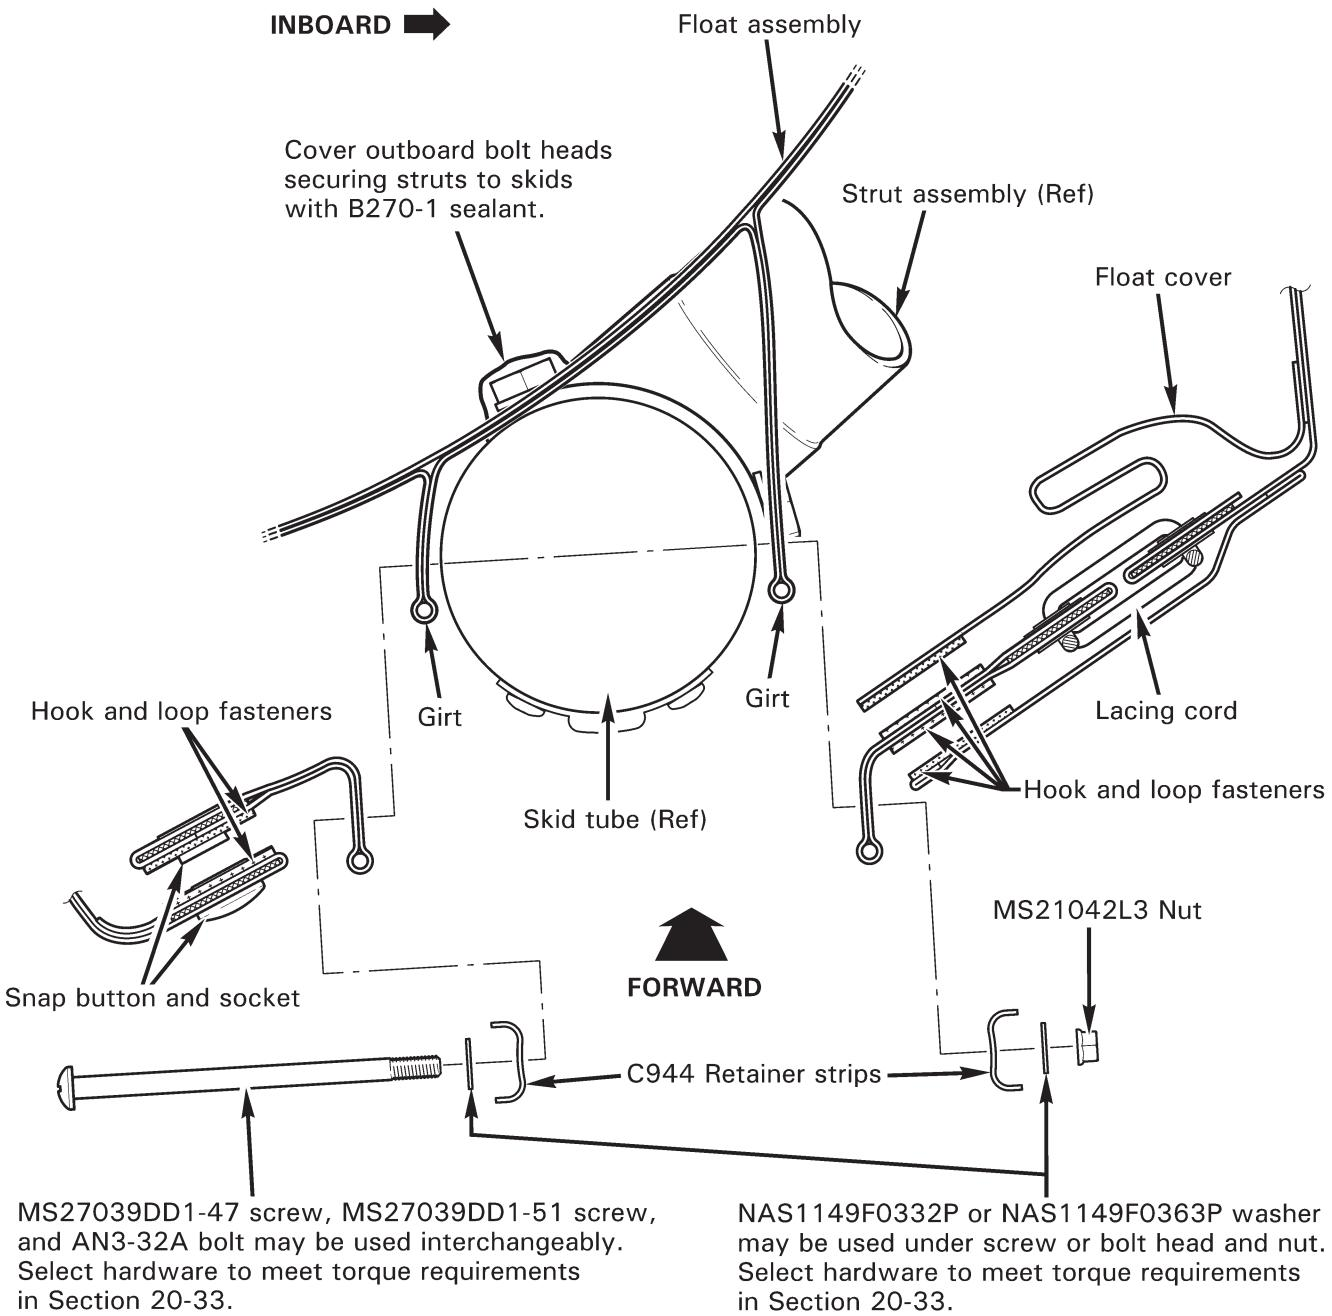

FIGURE 32-7 POP-OUT FLOATS FLOAT INSTALLATION
Refer to R66 Illustrated Parts Catalog (IPC) Figure 32-7.
3. Refer to Figure 32-7. Detach float cover hook and loop tape inboard of skid and loosen lacing.
1. Refer to Figure 32-7. Verify (outboard) bolt heads securing struts to skids are covered with B270-1 sealant. Apply additional sealant as required.
4. Refer to Figure 32-7 and Figure 32-8 Detail A. At girt forward edges, fold float perpendicular to skid tube; tuck material under and aft of float as shown.